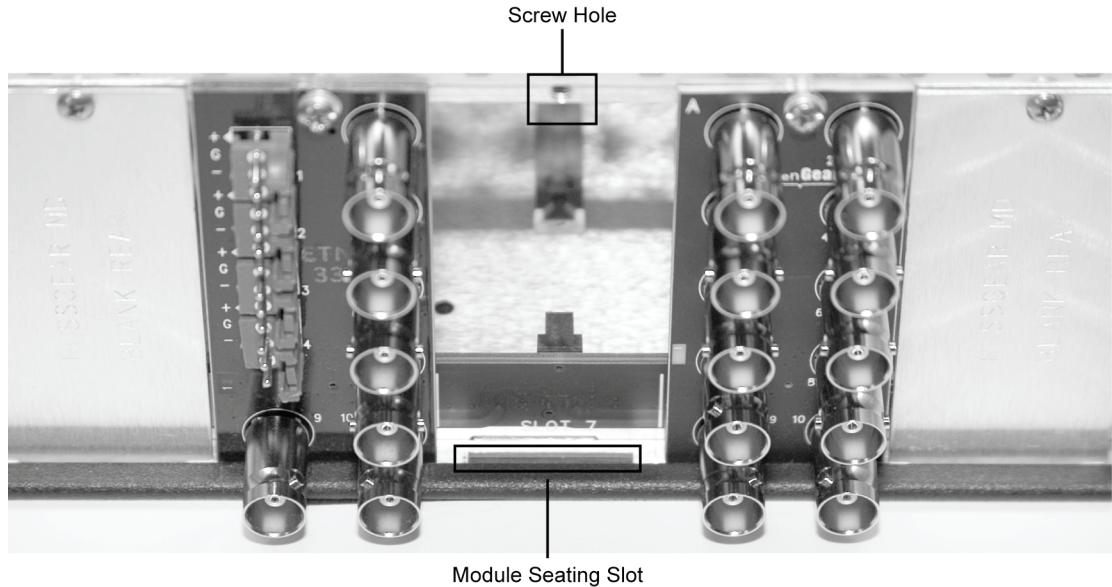

Figure 3. Rear Module Installation (SFS-8221 not shown)
4. As shown in Figure 3, seat the bottom of the rear module in the seating slot at the base of the frame's back plane.